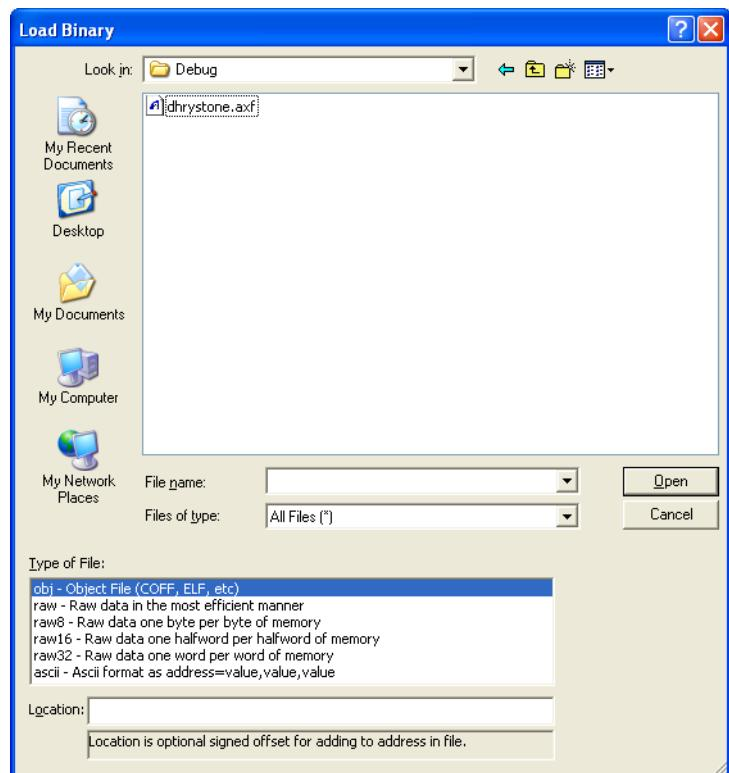

Figure 4-5 Load Binary dialog box
- Figure 4-5 shows an example. The default location is the location of the last image you loaded. In this case, the location of the debug image for the Dhrystone example project.